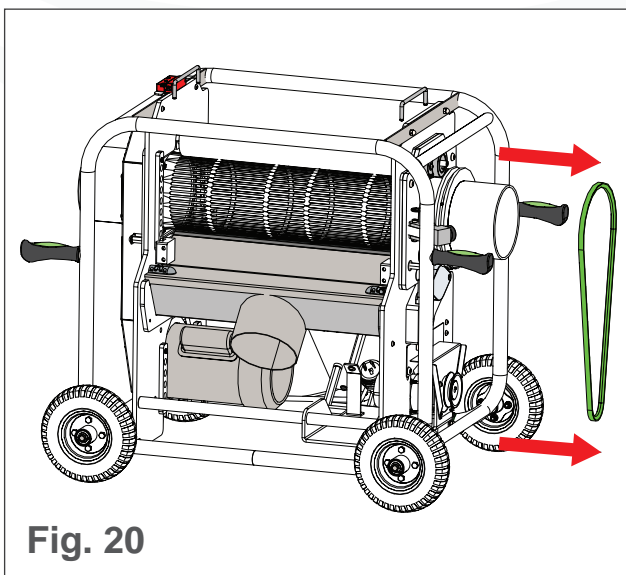

Fig. 20
5. Remove the tumbler belt (see Fig. 20).